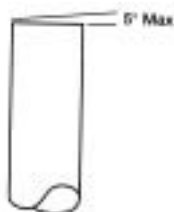

Fig. 2
5. Cut hose to the calculated cut length. End must be square ($\pm 5^\circ$). See Fig. 2